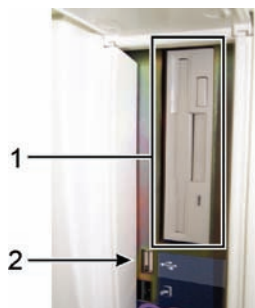
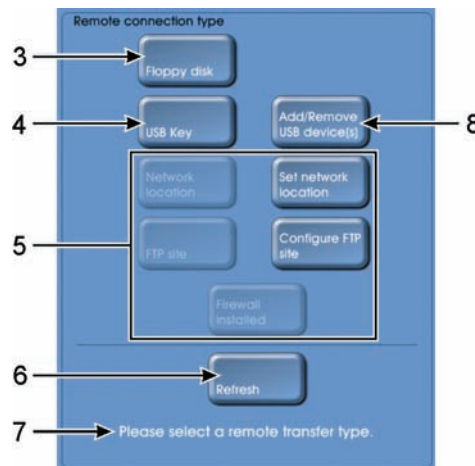

Figure 143: Front of instrument with floppy drive (1) and USB port (2)
Figure 144: Remote connection area
The device connection locations are shown in Figure 143 and the remote connection area is shown in Figure 144. The table following these images details the software and hardware items. Refer to the following sections for detailed device connection and removal instructions:
2. Insert a floppy disk into the drive at the front of the instrument (see item 1 in Figure 143).
3. Select the **Floppy disk** button from the “Remote connection type” area (see item 3 in Figure 144).
4. Check the connection status in the connection area (see item 7 in Figure 144).
2. Select the **Add/Remove USB device(s)** button from the “Remote connection type” area to prepare the instrument prior to connecting the device (see item 8 in Figure 144).
6. Plug your USB device into the USB port at the front of the instrument (see item 2 in Figure 143).
10. When all dialog boxes have closed, select the **USB key** button from the file transfer screen (see item 4 in Figure 144).
11. Check the connection status in the connection area (see item 7 in Figure 144).
2. Select the **Add/Remove USB device(s)** button from the “Remote connection type” area to prepare the instrument prior to removing the device (see item 8 in Figure 144).
6. Remove your USB device from the USB port at the front of the instrument (see item 2 in Figure 143).